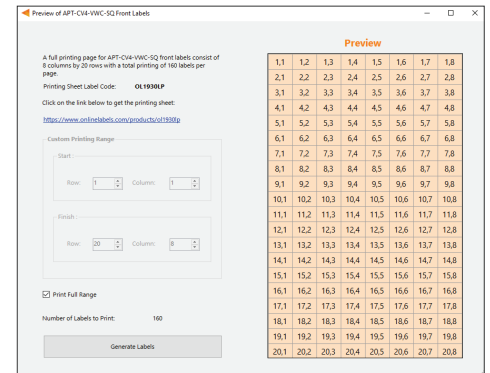

Figure 14: Label generation print preview window
- 2 Input the 4-digit **ID Number** written on the original label (shown in Figure 14). The ID Number indicates the production build of the APT Controller.
- 4 Input the starting and finishing rows and columns that will fit on the back or front labels. The selected range is highlighted in blue (Figure 14).